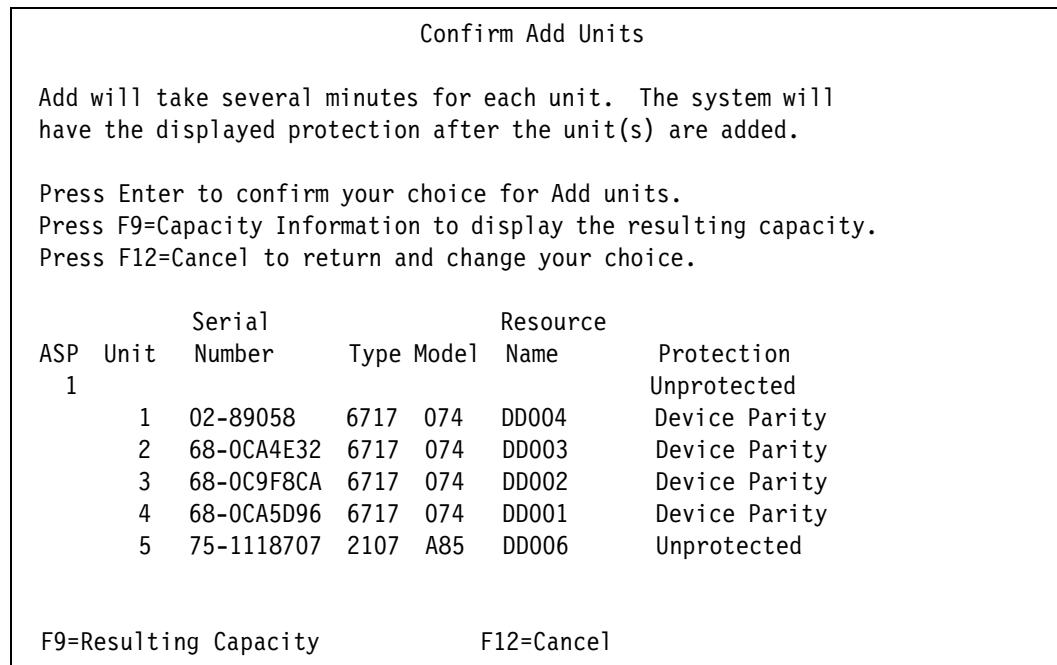

Figure 17-5 Confirm Add Units
6. The Confirm Add Units window appears for review, as shown in Figure 17-5. If everything is correct, press Enter to continue.